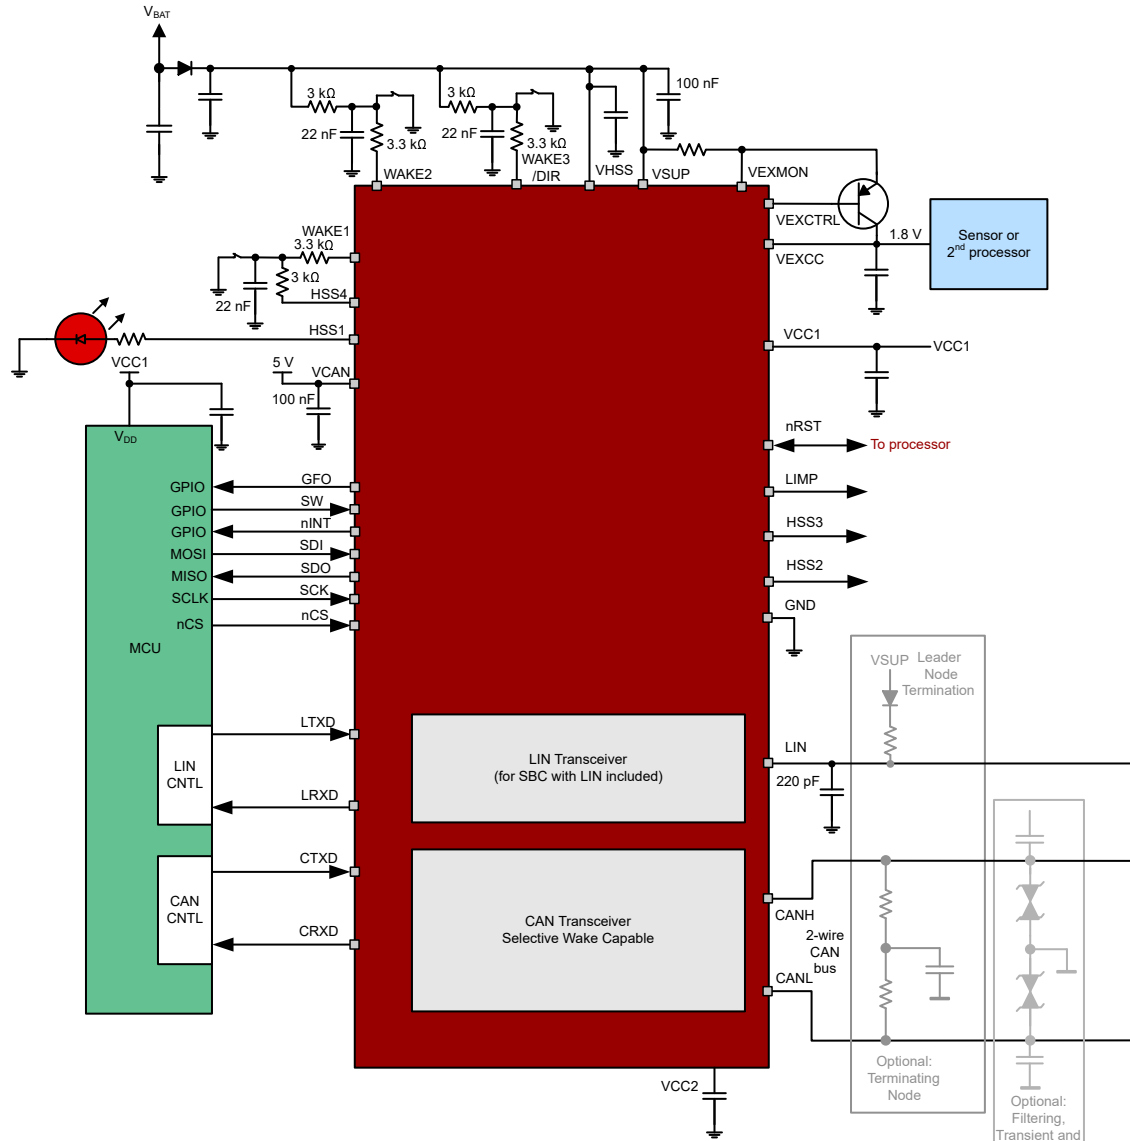

Figure 8-36. Application Drawing With Cyclic Sensing Configuration
When using cyclic sense WAKE, the quiescent current of the device in sleep mode is reduced as the WAKE circuitry is only active during the on time of the selected HSS4 pin, see Figure 8-36. Periodically the HSS4 pin turns on applying VSUP to the external local wake circuitry. Each time, WAKEx sets a bit stating the pin is high or low and compares the bit to the previous state. If there has been a change, the device wakes up;
- Connect the desired WAKE pins to HSS4 as shown in Figure 8-36